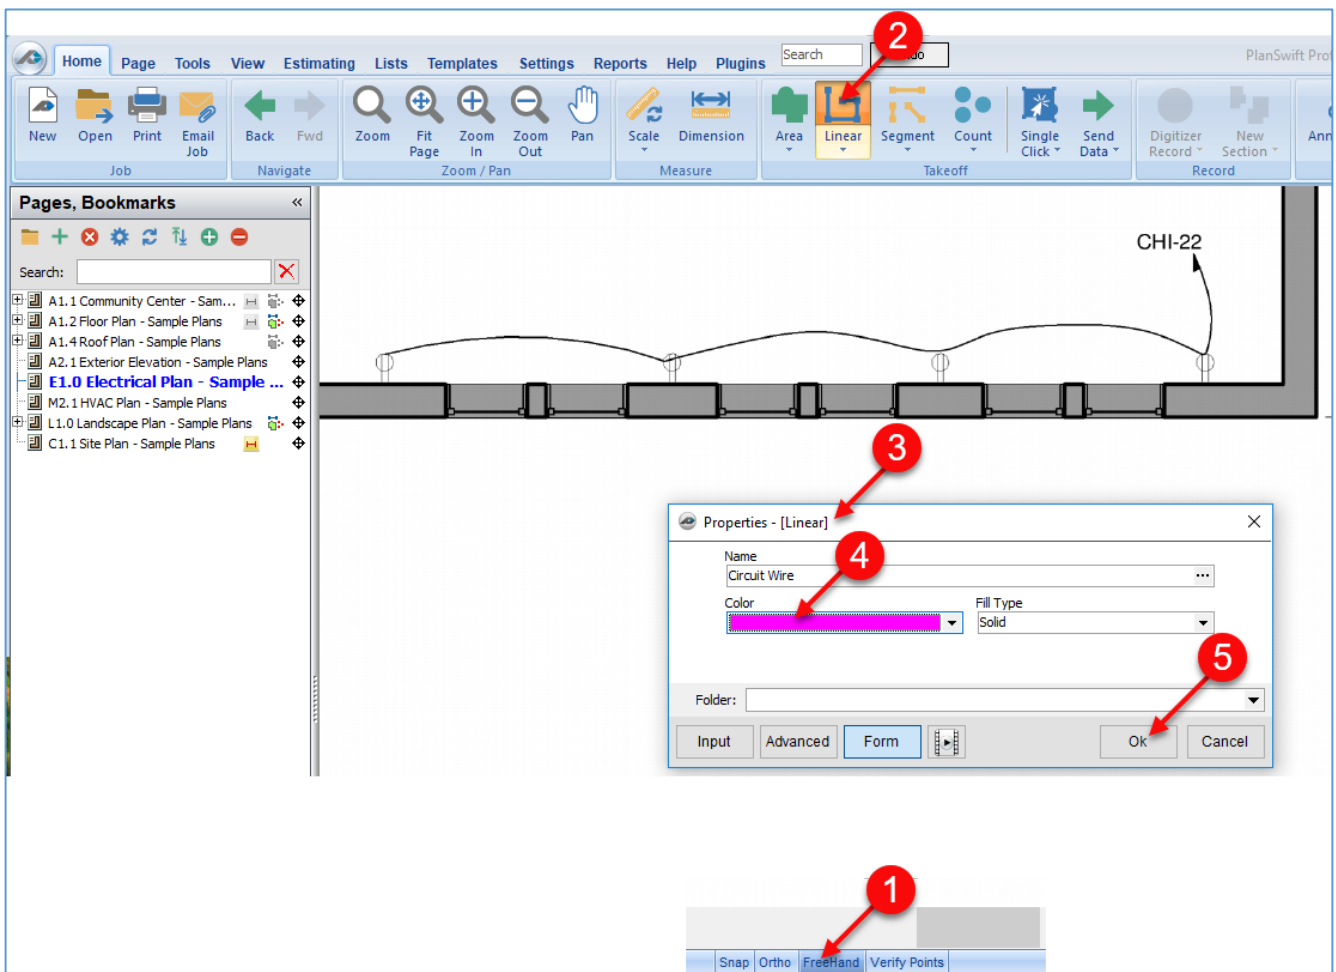

Figure 20-B
6. Click on the beginning of the electrical wire and *hold the mouse button down* until “Freehand” appears and begin moving your mouse freehand (Fig. 20-C). Note: if you make a mistake, release the mouse button, then press the **Backspace** key on the keyboard as many times as necessary to correct the mistake; to continue freehand, hold down the mouse button as before.